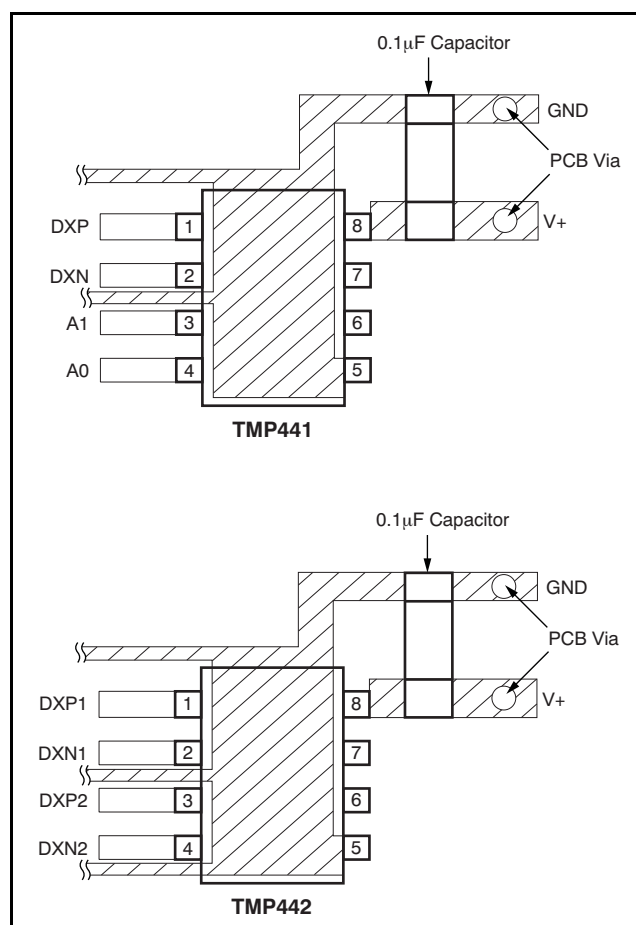

Figure 20. Suggested Bypass Capacitor Placement and Trace Shielding
4. Use a 0.1 μ F local bypass capacitor directly between the V+ and GND of the TMP441/42, as shown in Figure 20. Minimize filter capacitance between DXP and DXN to 330pF or less for optimum measurement performance. This capacitance includes any cable capacitance between the remote temperature sensor and TMP441/42.